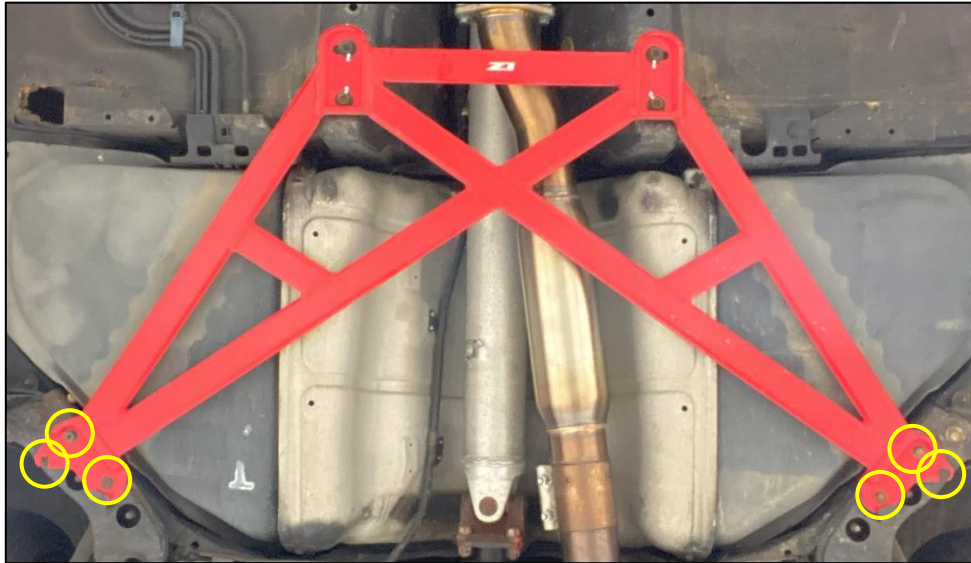

Figure 3
- Loosely install the (6) six M8 x 1.25 Bolts. *Figure 3.*